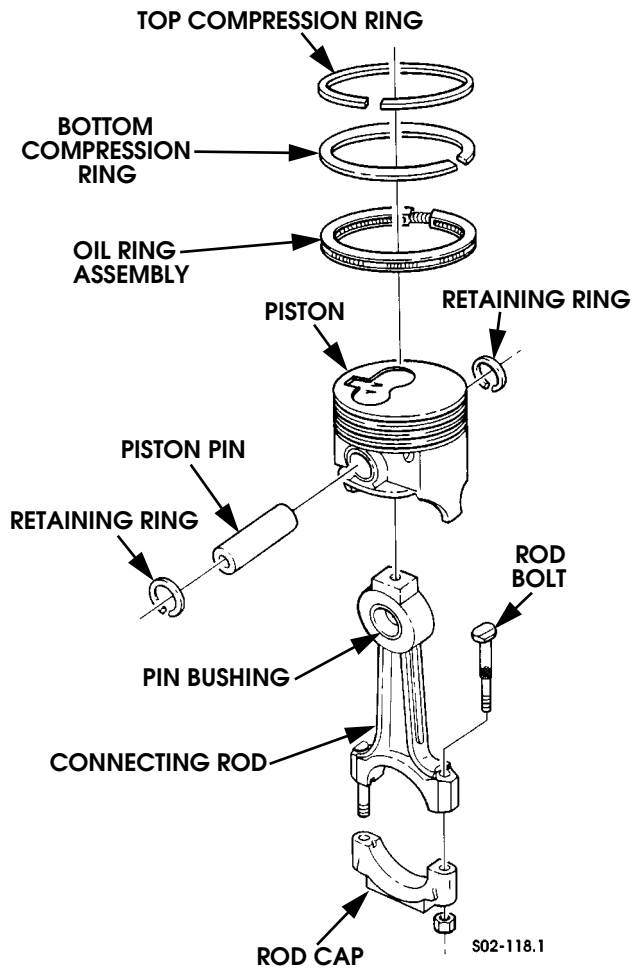

Figure 2-139: Connecting Rod and Piston Assembly
- d. Separate piston, and rod, and pin (Figure 2-139).